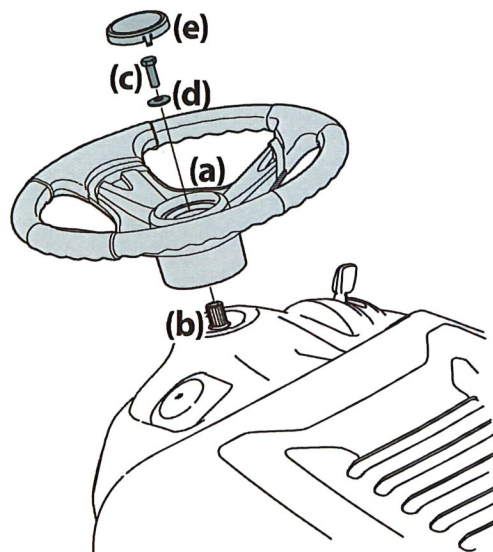

Figure 7
2. With the front wheels of the tractor pointing straight forward, align the steering wheel (a) and place it onto the steering shaft (b). See Figure 7.
3. Secure the steering wheel (a) with the hex bolt (c) and washer (d) from under the steering wheel cap (e) and torque to 18-22 ft-lbs (24-30 N-m). See Figure 7.
4. Place the steering wheel cap (e) over the center of the steering wheel (a) and push downward until it "clicks" into place. See Figure 7.
**NOTE:** The hex bolt (c) securing the steering wheel (a) has thread locker applied to it, so if it is removed, it is recommended that the hex bolt (c) be replaced or thread lock re-applied. See Figure 7.